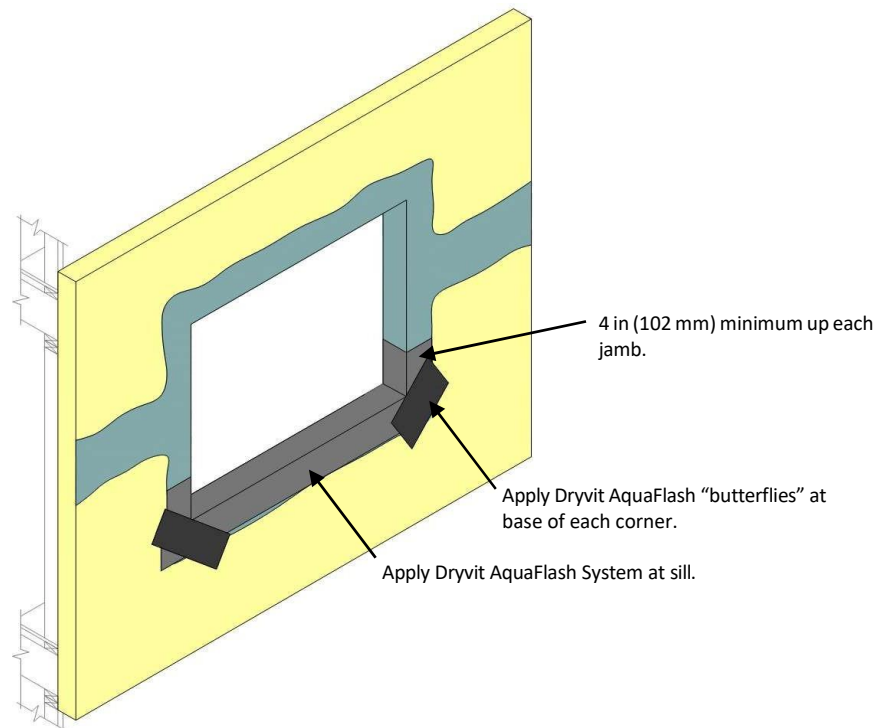

Fig. 10
- 3) Apply Dryvit AquaFlash System at sill in accordance with Sections 4.A.3. NOTE: AquaFlash System must extend up the jambs a minimum of 4 in (102 mm) – Figure 10.